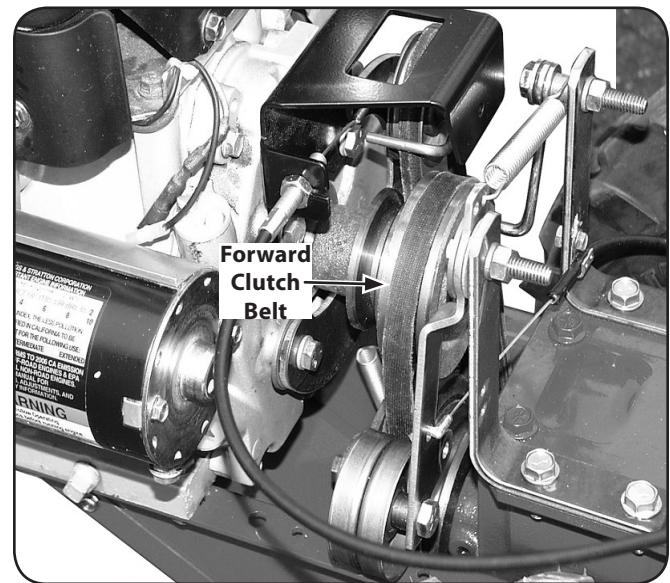

Figure 6-4
Tension on a new forward clutch belt should be checked after the first two (2) hours of operation and after every ten (10) hours of operation after that. See Fig. 6-4.